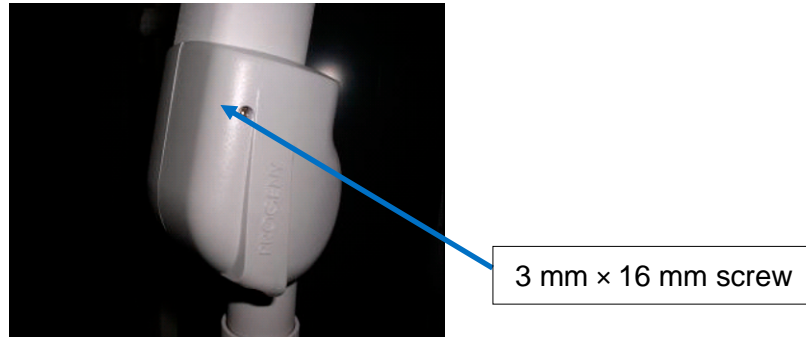

Figure 23: Installing the Matching Covers together
4. Press the two matching covers together and secure with the 3 mm x 16 mm screw provided in the package (Figure 23). Use a 3 mm hex wrench to tighten.